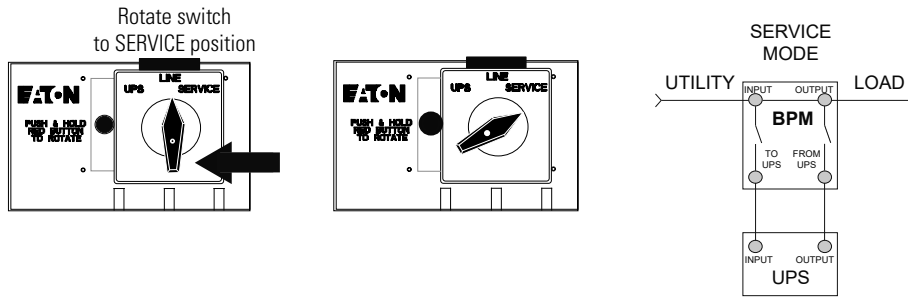

Figure 27. Bypass From LINE to SERVICE
- Turn the switch from LINE to SERVICE (see Figure 27). The critical load is fed directly from utility and the UPS is now completely disconnected from AC power. Ensure that the UPS is off and the terminals are completely de-energized before performing any maintenance on the UPS.